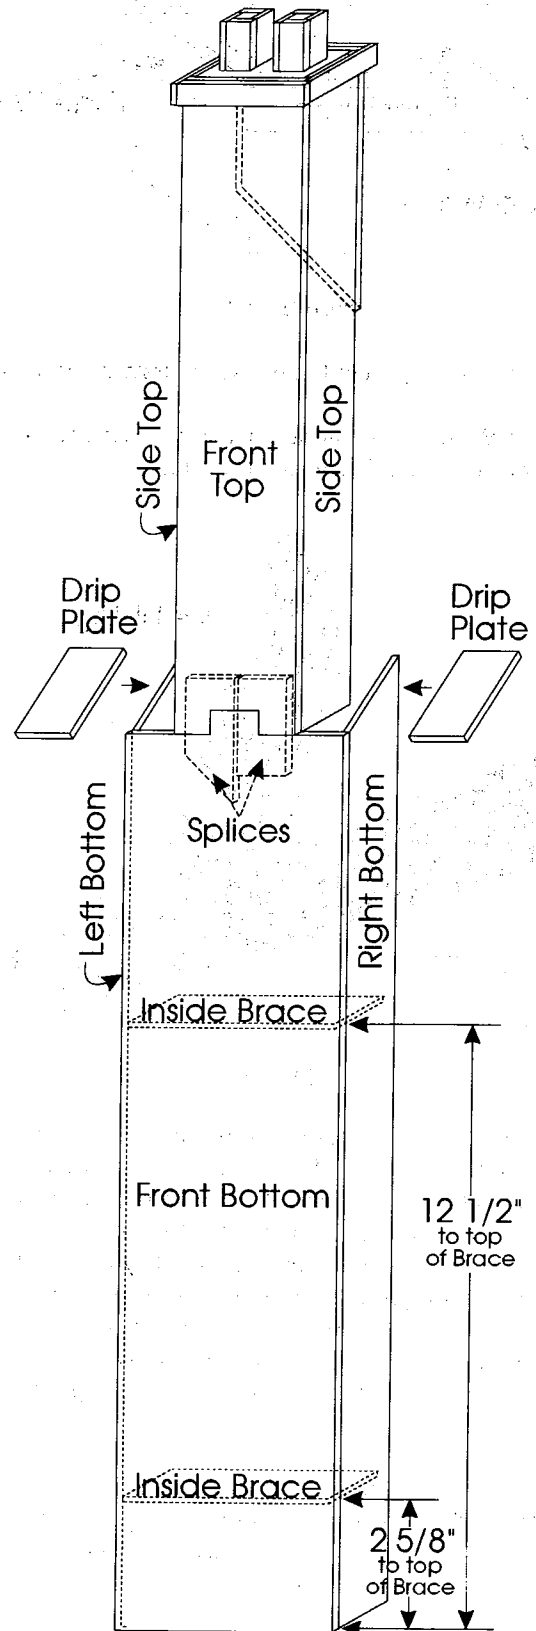

Figure 3
3. Assemble Chimney as shown in Fig. 3. Do not attach drip plates until after bricking. The 2 5/8" and 12 1/2" measurements match the 1st and 2nd floor heights.
Figure 3 cont.